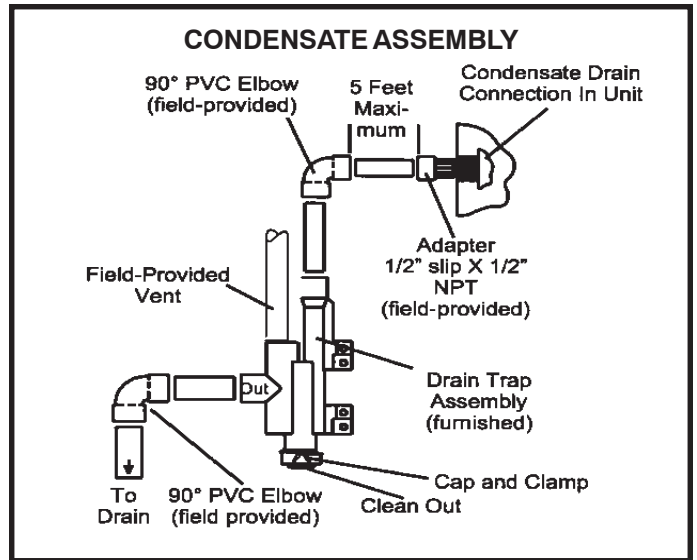

Figure 44
3. Install the cap over the clean out opening at the base of the trap. Secure with clamp. See Figure 44.
4. Install drain trap using appropriate PVC fittings, glue all joints. Glue the provided drain trap as shown in Figure 44. Route the condensate line to an open drain. *Condensate line must maintain a 1/4" downward slope from the furnace to the drain.*